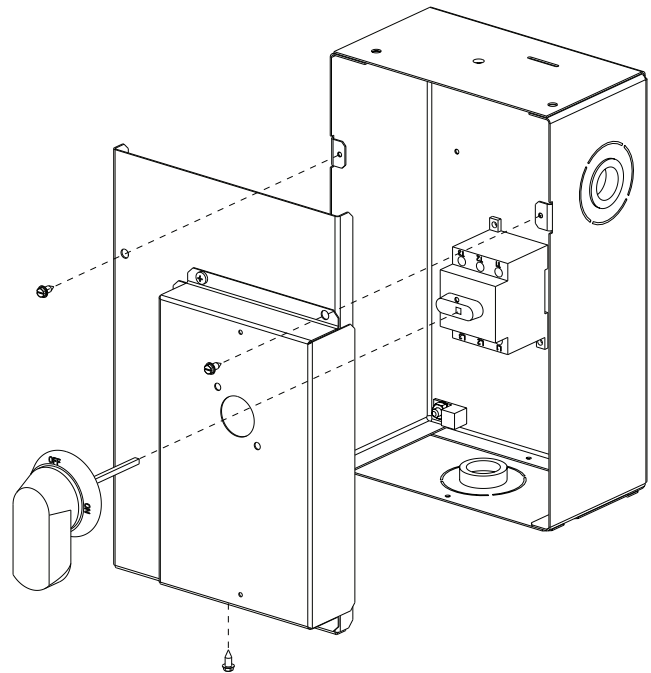

Fig. 31 — Handle and Shaft Assembly for NFD
5. Insert the shaft with the cross pin on the top of the shaft in the horizontal position. See Fig. 31.
10. Secure the handle to the painted cover with (2) screws and lock washers supplied.
11. Engaging the shaft into the handle socket, re-install (3) hex screws on the NFD enclosure.